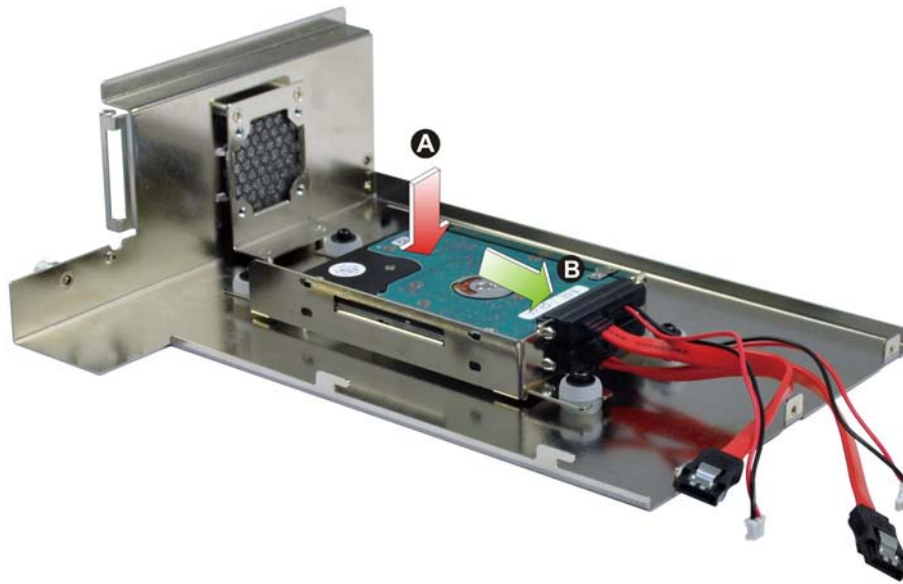

Figure 3-5: HDD Installation
Step 3: Attach the HDD to the HDD bracket, and then slide the HDD to connect the HDD to the SATA connector (**Figure 3-5**).